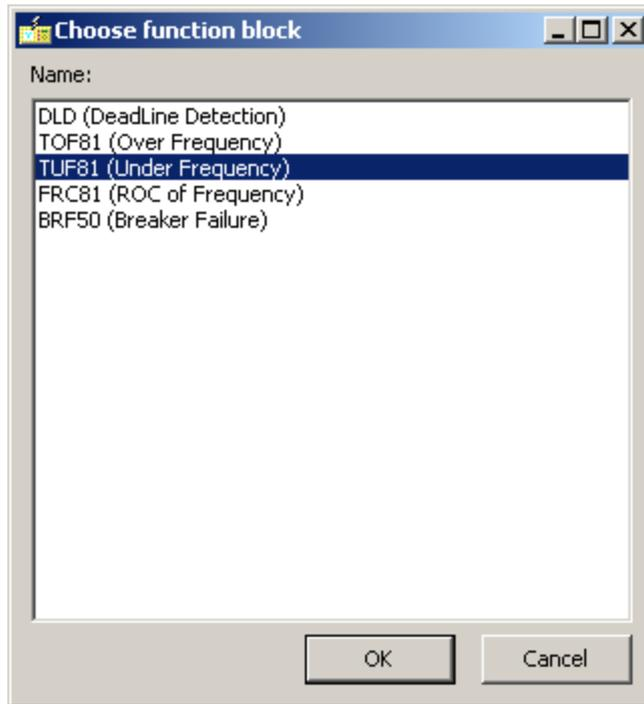

Figure 6-4 Example for FB selection
- The required function blocks are DLD (dead line detection) and TUF 81. Click the icon  (Function blocks), then click on the empty sheet. A selection window is opened (showing the selection of the function block TUF81 according to Figure 6-4). Clicking "OK" and the block is placed on the sheet. Repeat the procedure with the function block DLD as well.